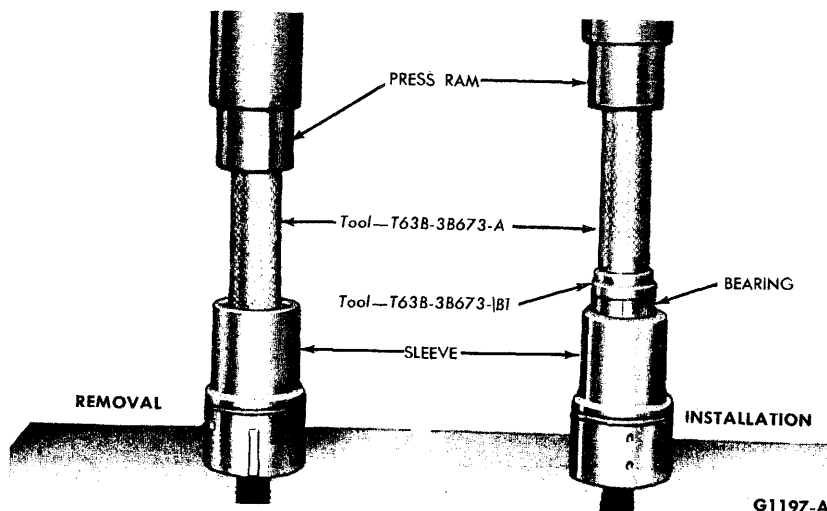

FIG. 23—Replacing Sleeve Seal and Bearing
ing, using the tools shown in Fig. 23.
6. Install the bearing in the sleeve, using the tool shown in Fig. 23. **The bearing must be pressed in so that there is 0.035-0.045-inch between the upper surface of the bearing and the seal seat surface of the sleeve.** To install the seal, use the tool shown in Fig. 23. Install the snap ring and check bearing rotation.